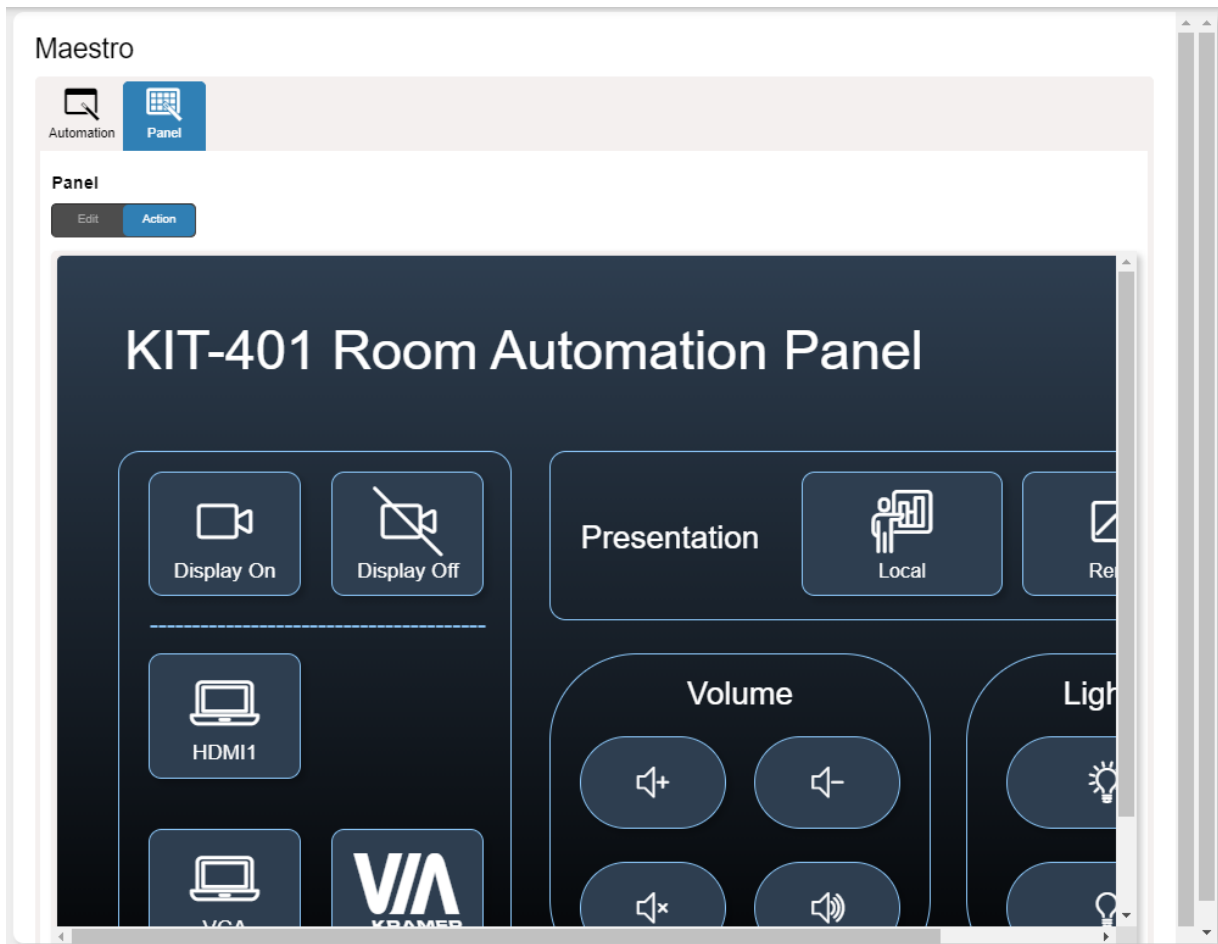

Figure 32:Automation Page – Panel Tab
2. Click the **Panel** tab. The default **KIT-401** Device Control Panel appears (see Figure 32).
2. Click the **Panel** tab. The **KIT-401** Device Control Panel appears (see Figure 32).